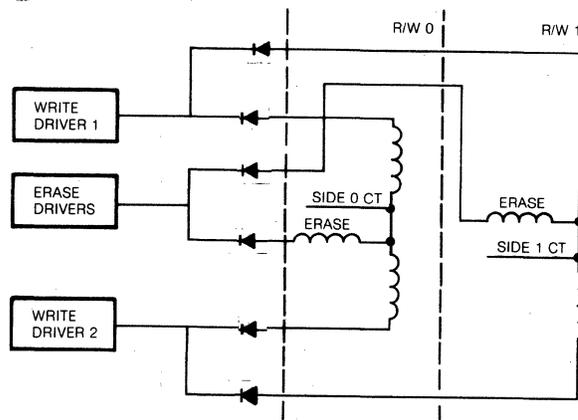

FIGURE 30. READ/WRITE HEADS
1.5.1 Each of the read/write heads contain two coils. Two read/write coils are wound on a single core, center tapped and one erase coil is wound on a yoke that spans the track being written. The read/write and erase coils are connected as shown in Figure 30.
1.7.2 Since a pulse occurs at least once every $4\mu\text{s}$ and when data bits are present once every $2\mu\text{s}$, the frequency of the read data varies. The read signal amplitude decreases as the frequency increases. Note the signals on Figure 30. The differential amplifier will amplify the read signals to even levels and make square waves out of the read signals (sine waves).